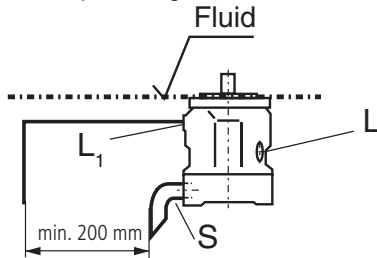

Fig. 1
a) If the minimum fluid level is equal to or above the pump mounting face close port "L" plugged, leave ports "L1" and "S" open; L1 piped and recommendation S piped (see Fig.1).